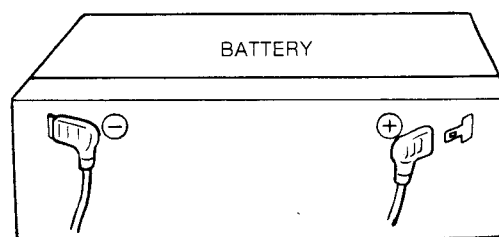

Figure 26.
- Be sure to disconnect the cord with its metallic part holding. (See figure 26.)